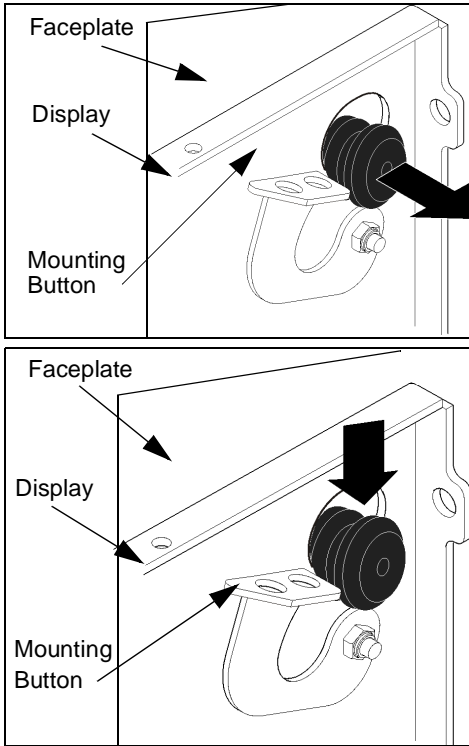

Figure 9: Align Display
2. With one person supporting each side of the display, align the four mounting buttons with the four teardrop slots in faceplate (See Figure 9).